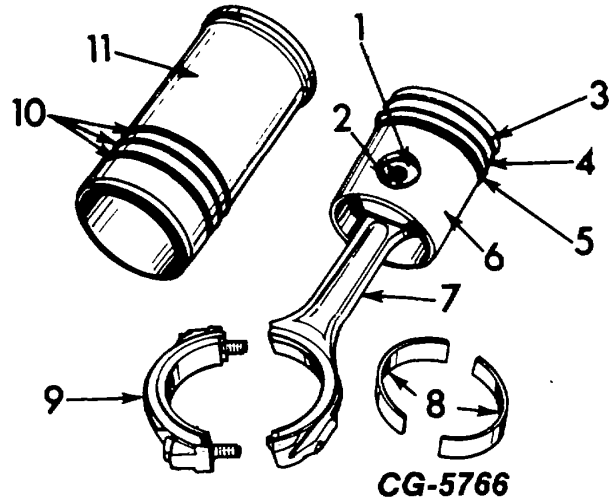

Figure 7. - Rod, Piston, Cylinder Sleeve and Related Parts
1. Remove the piston rings (3, 4 and 5, Fig. 7) with a piston ring expander. Remove the top compression ring first then the remaining rings in order.
2. Remove the piston pin retainers (2) from each piston.
3. Remove the piston pin (1) by hand.